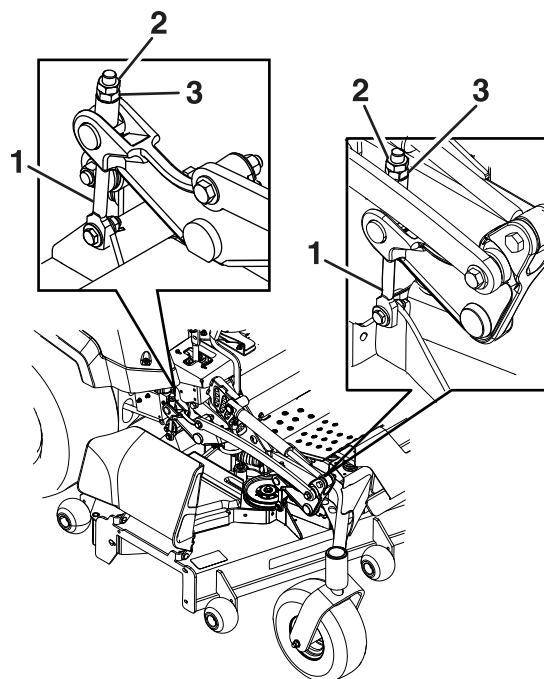

Figure 76
9. Fine-tune the adjustment nut on the front deck lift assembly by turning it (Figure 76).